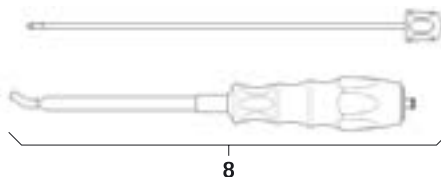

Fig. 3
- To dismount rod insertion instrument **8**, see Fig. 3: